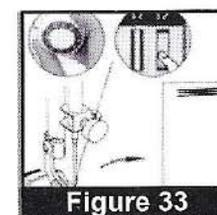

Figure 33
2. Turn the switch ON. Sew about 3-4 stitches at low speed and turn switch OFF. (Figure 33)